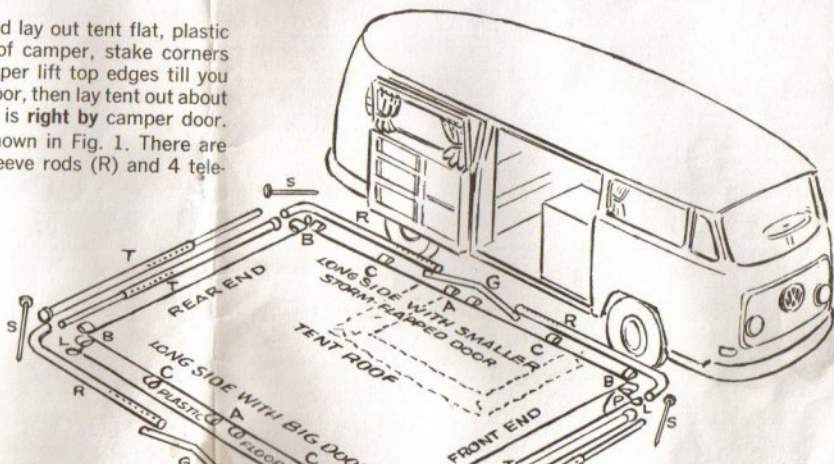

Fig. 1
- 1 Unpack tent and frame rods. Unfold and lay out tent flat, plastic floor down. If erecting independently of camper, stake corners first (loops L, Fig. 1). If joining to camper lift top edges till you locate smaller, storm-flapped passage door, then lay tent out about 9" from camper so storm-flapped door is **right by** camper door.
Lay out metal frame members as shown in Fig. 1. There are 2 center gables (G), 4 round corner sleeve rods (R) and 4 telescoped end supports (T).